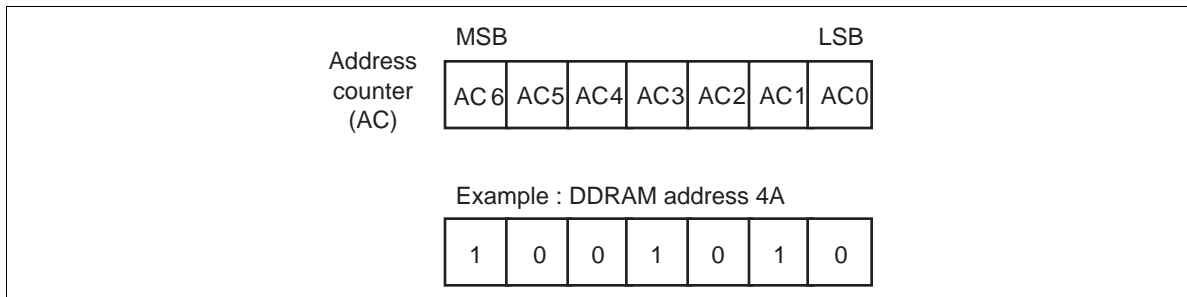

Figure 2 Address Counter and Sample DDRAM Address Setting
The address counter (AC) assigns addresses to DDRAM, CGRAM, or SEGRAM. When the address set instruction is written into the IR, the address information is sent from the IR to the AC. Selection of DDRAM, CGRAM, and SEGRAM is also determined concurrently by the instruction. Figure 2 shows the address counter and a sample DDRAM address setting to the address counter.